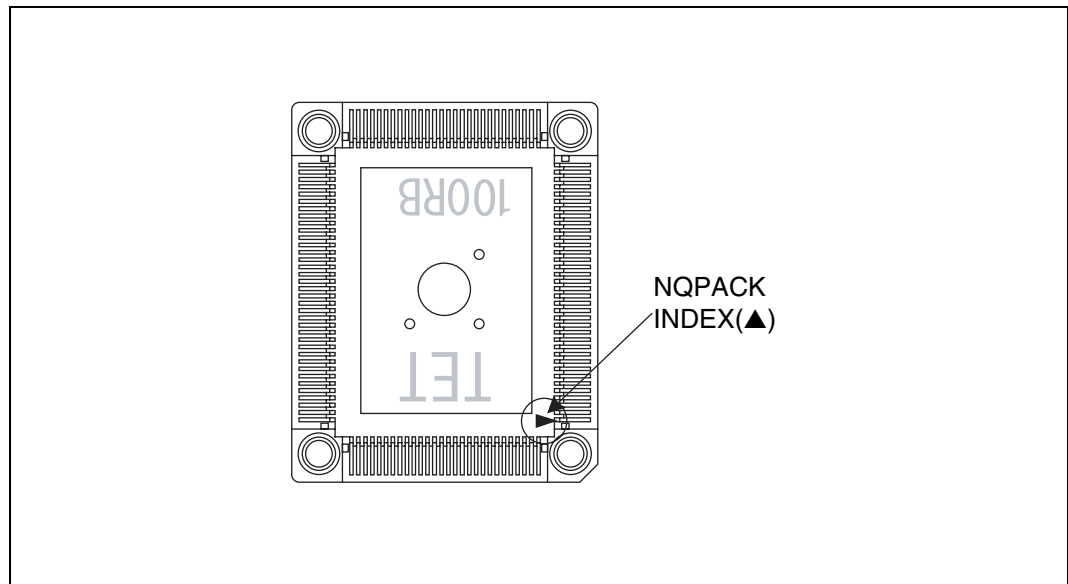
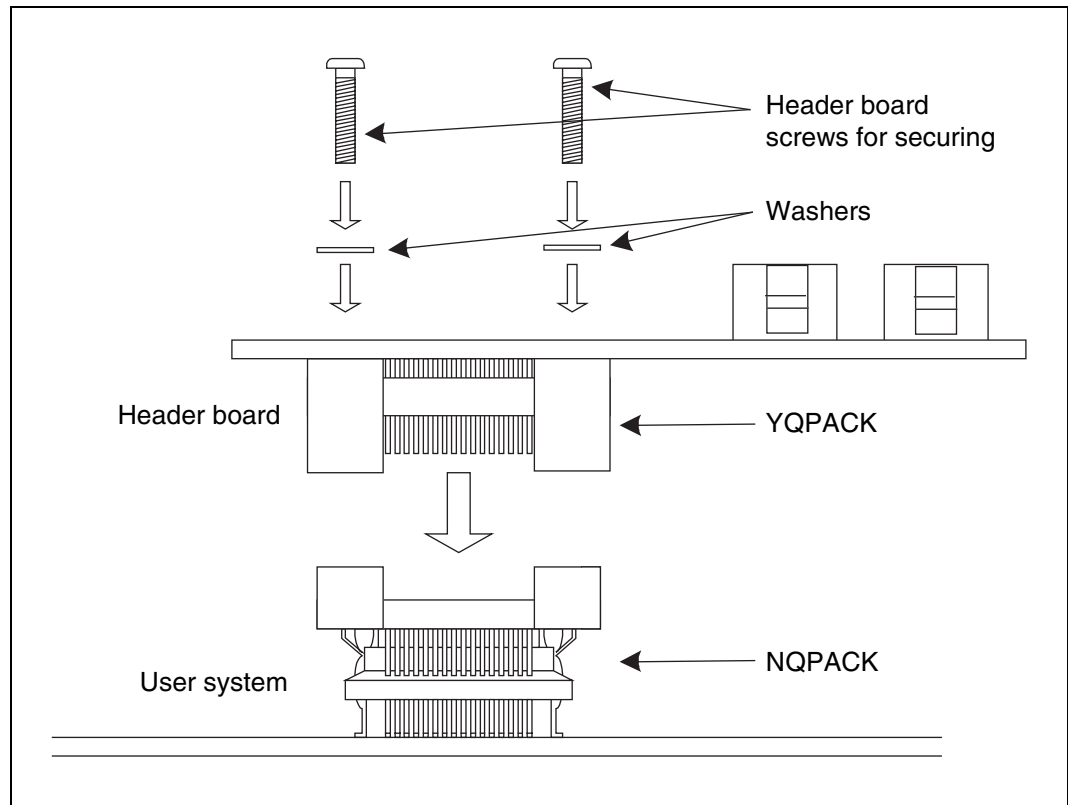

Figure 3 NQPACK index position
Figure 4 Header board connection
1. To connect the header board to the user system, match the index mark (▲) on the NQPACK mounted on the user system with the index mark (▼) on the header board (see Figure 3), and then insert it. Next, secure the header board with four screws (see Figure 4).